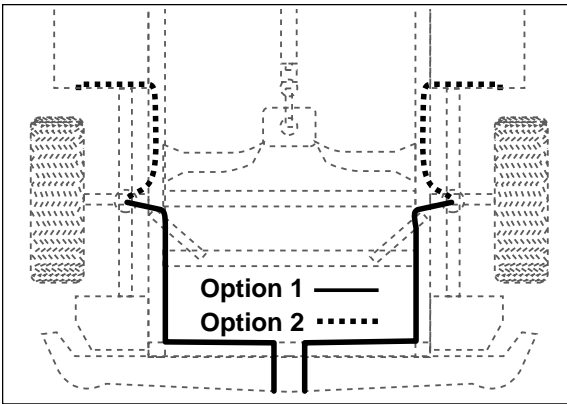

Figure 12
6. Route the air line along the frame to the air fitting on the air spring (Figure 12). Keep at least 6" of clearance between the air line and heat sources, such as the exhaust pipes, muffler, or catalytic converter. Avoid sharp bends and edges. Use the plastic tie straps (BB) to secure the air line to fixed, non-moving points along the chassis. Be sure that the tie straps are tight, but do not pinch the air line. Leave at least 2" of slack to allow for any movement that might pull on the air line.
7. On the passenger side only, place the provided thermal sleeve (S) on the air line near the exhaust.